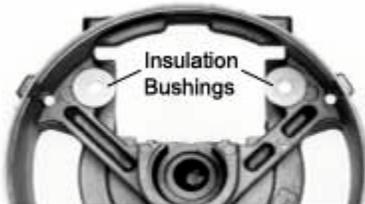

Figure 18
6.2 Insert insulation bushings in the two output terminal holes so flat side faces the inside of housing (Figure 18).